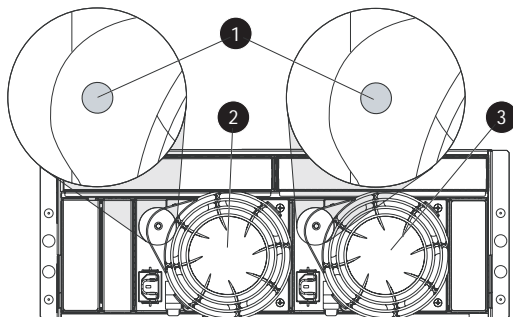

Figure 51 Power supply/blower status indicator
- Check the power supply/blower status indicator. See Figure 51. It should be off.